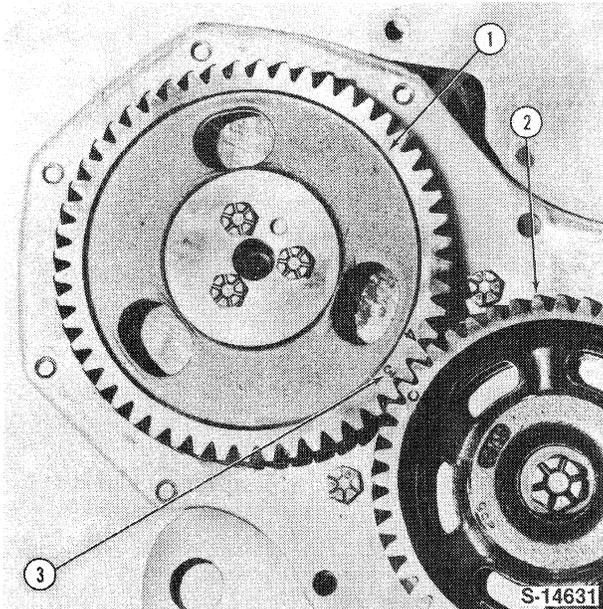

Figure 26
4. Assemble the fuel injection pump to the engine front plate. Check No. 1 piston is at T.D.C. and install the injection pump drive gear with the timing mark aligned with that of the camshaft drive gear, Figure 26.